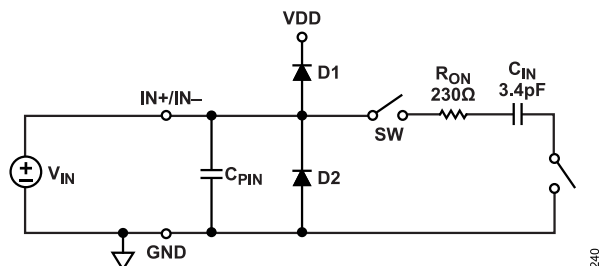

Figure 43. Equivalent Analog Input Circuit
Figure 43 shows an equivalent circuit for each of the AD4062 analog inputs (IN+ and IN-). The analog inputs are modeled as a switched capacitive load. During the acquisition phase, the sampling switch (SW) connects each input pin to the 3.4pF sampling capacitor (C_{IN}) in series with the 230Ω switch on resistance (R_{ON}). During the conversion phase, SW disconnects to sample the voltages on the IN+ and IN- pins onto the sampling capacitors. D1 and D2 represent the ESD diodes from the IN+ and IN- pins to the VDD supply and GND, respectively. C_{PIN} represents the pin capacitance of each input pin to GND and is typically 2pF.